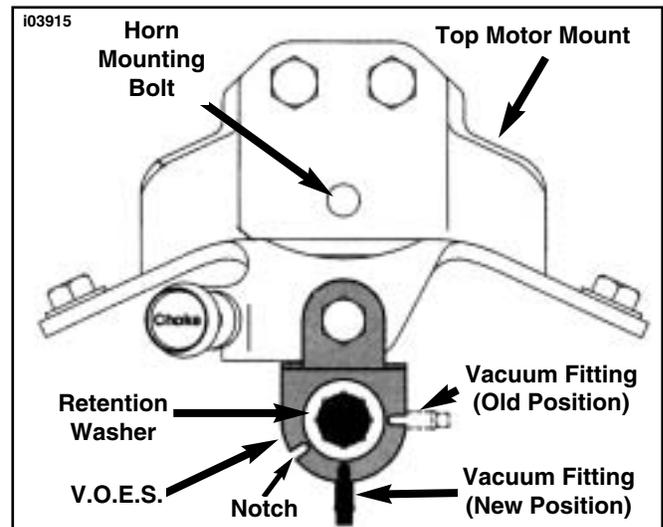

Figure 5. V.O.E.S. Installation
7. See Figure 5. Rotate the V.O.E.S. so that the vacuum line points downward. Note V.O.E.S. and its mounting bracket have indexing bumps and notches that must be aligned.